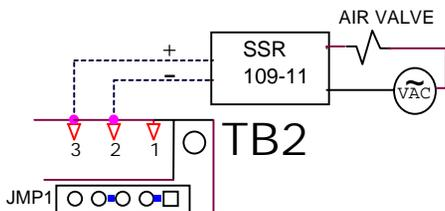

Figure 2
2. Constant On: This software feature allows a high feed rate application to keep the feeder running all of the time (ON). The part sensor is used to switch an auxiliary device like an air valve ON and OFF through the Auxiliary output (TB2-1, 2, & 3). The air valve then blows unwanted parts back into the bowl when the inline has enough parts. An air valve can be operated by the Aux. output by using one of the two connection schemes shown below in Figures 2 & 3. The Constant On feature automatically disables the Line Voltage Compensation feature.